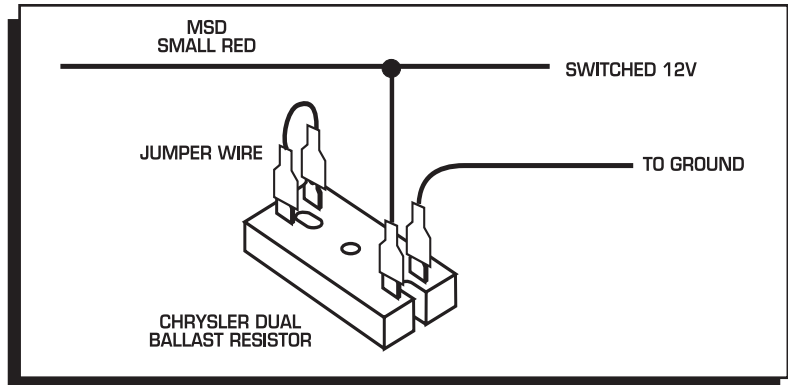

Figure 15 Wiring the Dual Ballast Resistor for Run-On.
**Most other applications:** On other applications where engine Run-On is experienced, a Resistor can be put in-line to the MSD's small Red wire (Figure 15). This resistor will keep voltage from leaking through to the MSD unit.